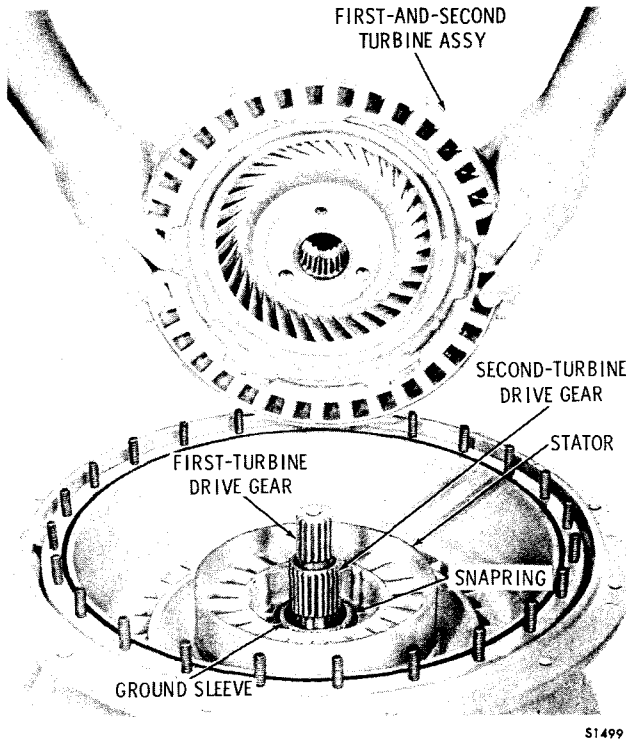

Fig. 7-40. Installing first-and-second turbine assembly
(3) Install the snapping onto the converter ground sleeve to retain the stator (fig. 7-40). Install the first-and-second turbine assembly onto the turbine drive gear shafts.